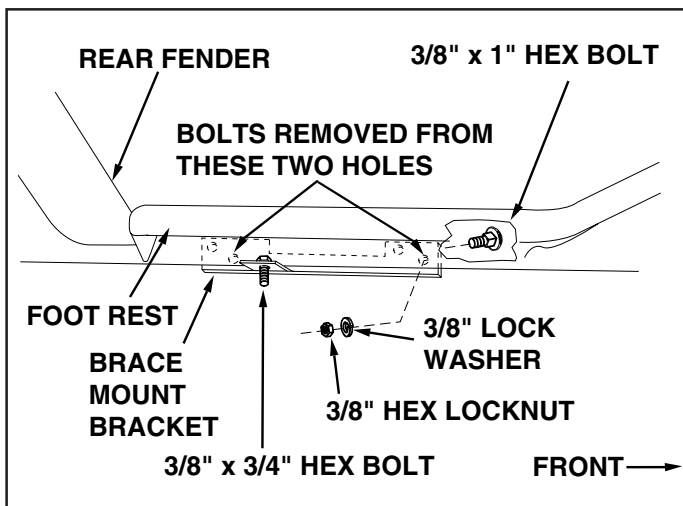

FIGURE 6 (Right Hand Side View)
- Starting at the rear of the foot rest, remove and discard, if present, the two bolts in the bottom set of holes as illustrated in figure 6. Repeat on opposite side foot rest.
- Place a 3/8" x 3/4" hex bolt in ear of both brace mount brackets as shown in figure 6. Now, using the two small bottom slots in the brace mount brackets, attach both brackets (R.H and L.H.) underneath both sides of the tractor frame using four 3/8" x 1" hex bolts, lock washers and lock nuts. (Brackets should be positioned on the inside of the frame with ears to the rear and pointing outward.) **Do not tighten.** See figure 6.